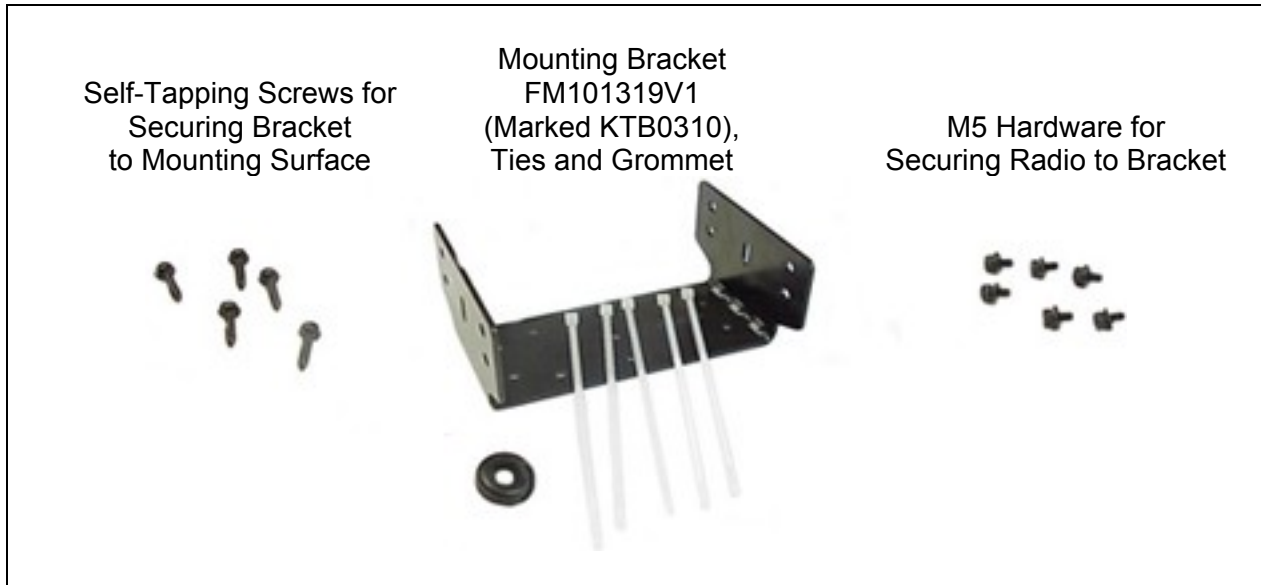
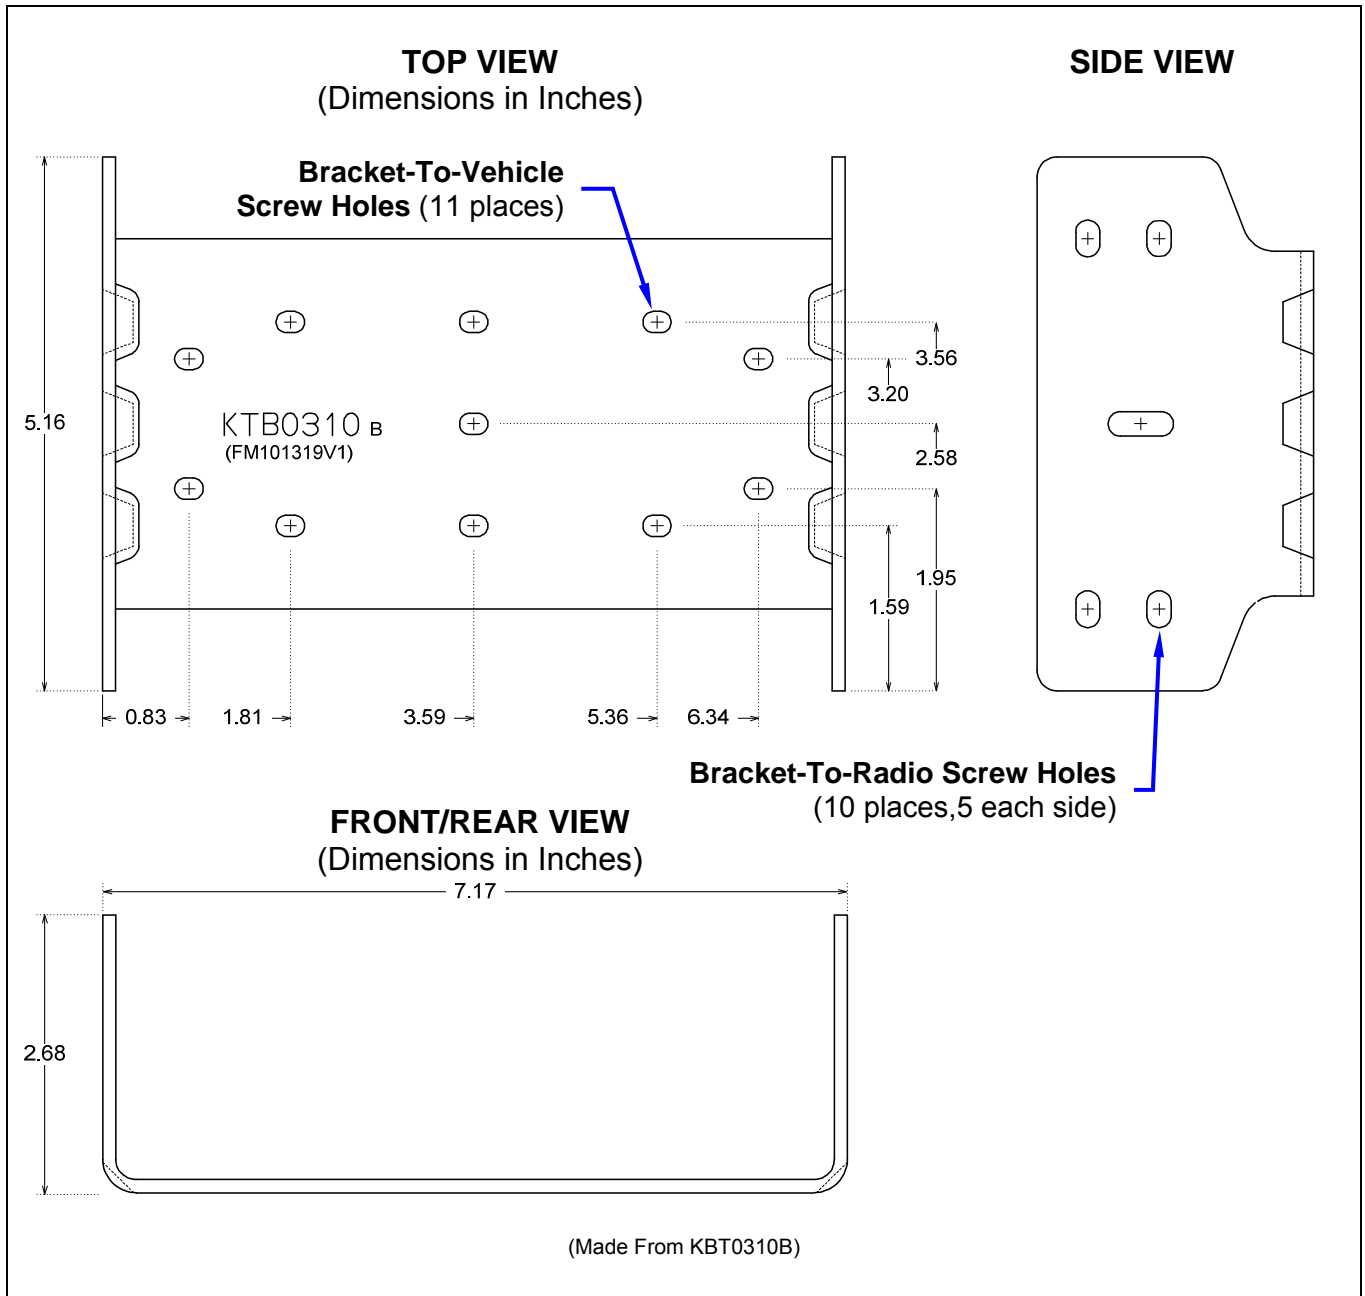

Figure 7-2: Front-Mount Mounting Bracket Kit KT101533V1
Figure 7-3: Mounting Bracket FM101319V1 (Marked KTB0310) Dimensions [for Front-Mount M7300 Mobile Radio (Radio Not Shown)]
The Mounting Bracket Kit for the front-mount M7300 mobile radio includes a heavy-gauge steel U-shaped mounting bracket. The radio should be attached to a mounting surface using this bracket. The bracket can be mounted above or below the radio. Kit contents are shown in Figure 7-2, and bracket dimensions are shown in Figure 7-3.
The front-mount M7300 radio's mounting bracket is included with the Front-Mount Mounting Bracket Kit KT101533V1. Kit contents are shown in Figure 7-2. This kit is Item 1 listed in Table 4-3 (page 22).
As illustrated in Figure 7-3, the bracket is both left-to-right and front-to-rear symmetrical. It has eleven (11) holes for securing it to a mounting surface. At least four (4) of these holes must be used to secure the bracket to the mounting surface. Five 20-millimeter-long self-tapping screws are included in the Mounting Bracket Kit for this purpose. However, some other type of hardware (not supplied) may be used, such as #10-32 stainless-steel self-locking hardware (i.e., machine screws with washers and locking nuts), or self-drilling screws. Self-drilling screws such as "TEK" screws do not require drilling of a pilot hole prior to installation. Do **not** use common self-threading sheet metal screws because they will loosen over time with vehicle vibrations.
2. Secure the radio to the bracket using at least four (4) of the six (6) M5 x 10 mm stainless-steel socket-head screws included with the Mounting Bracket Kit. These screws have captive lockwashers. Kit contents are shown in Figure 7-2. This kit is Item 1 listed in Table 4-3 (page 22).